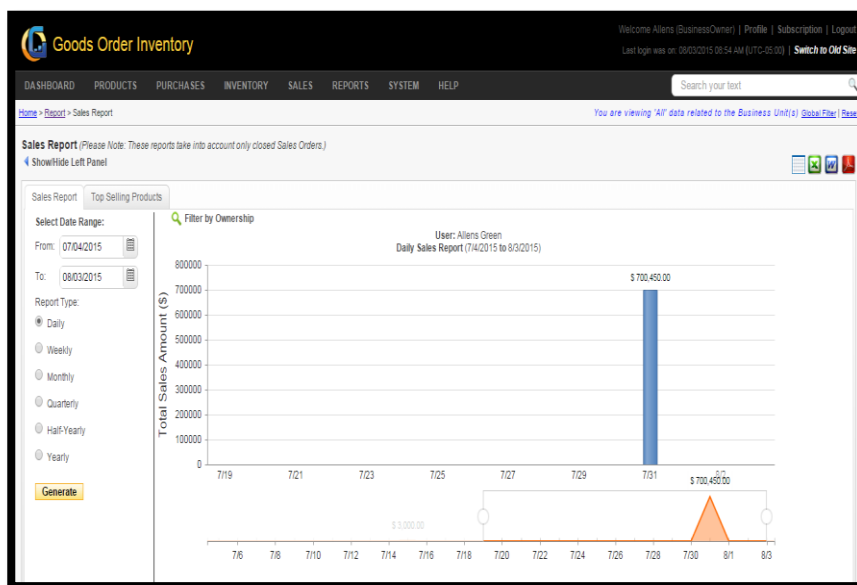

FIGURE 4.8.1
3. You will be redirected to another window, Snapshot of the window is shown in figure: 4.8.1